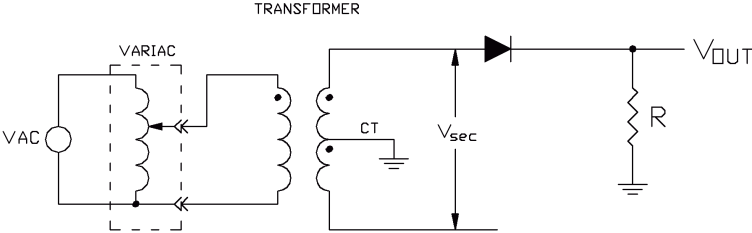

Figure 10
- Using the supplied transformer, diode and resistor, construct the half wave rectifier circuit shown in Figure 10.